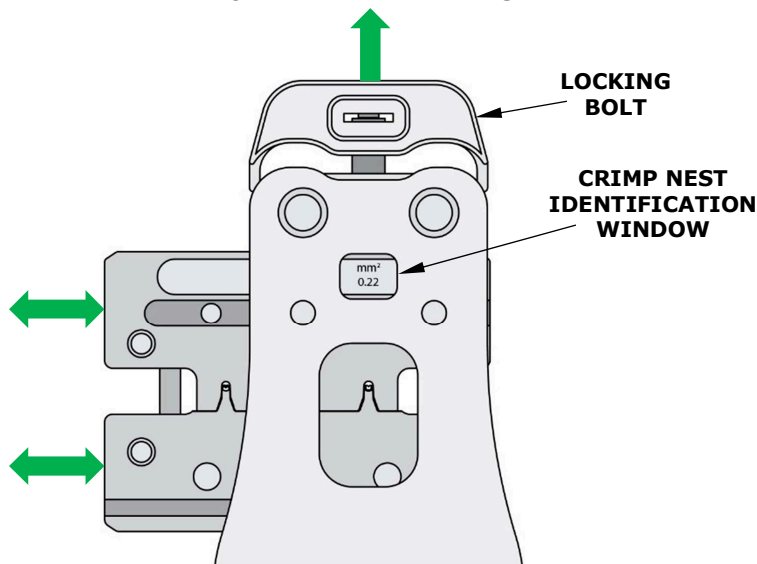

Figure 2
2. Pull up on the locking bolt, and hold it in the up position. See Figure 2.
3. Move the slide to the right or the left until the desired crimp nest is identified in the window. See Figures 2 and 3.